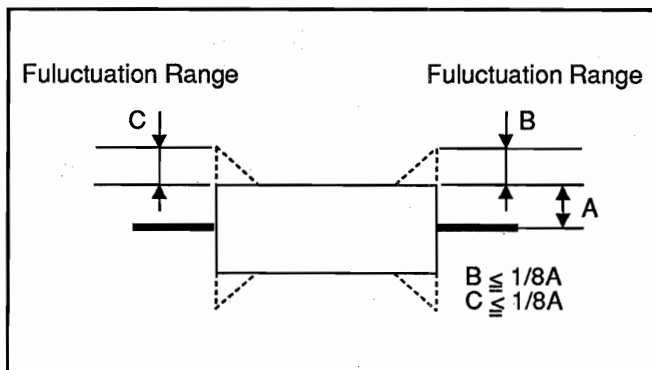

Fig. 1-9
- 4) Be sure that the fluctuation of the RF waveform is as shown in Fig. 1-9 at both ends.